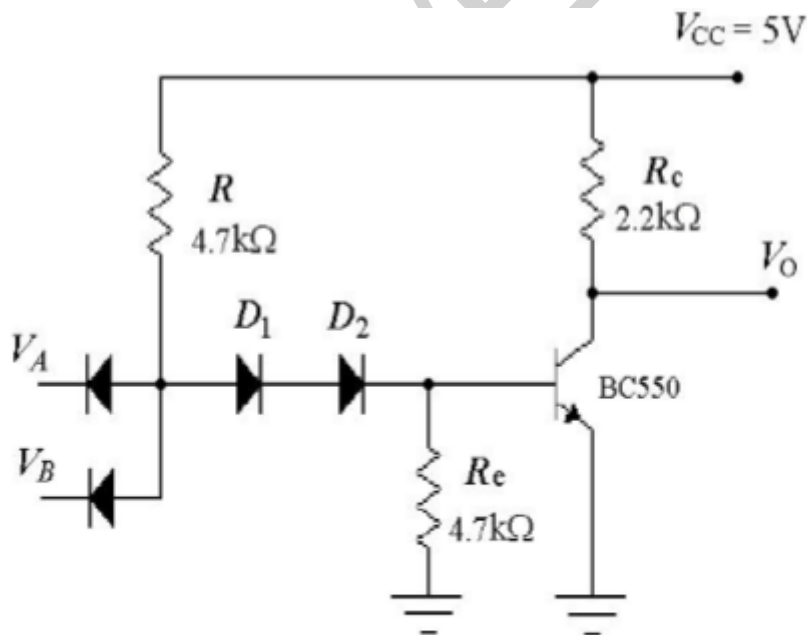

Figure 1 : Simplified DTL NAND gate.
1. Construct the circuit as shown in Figure 1.